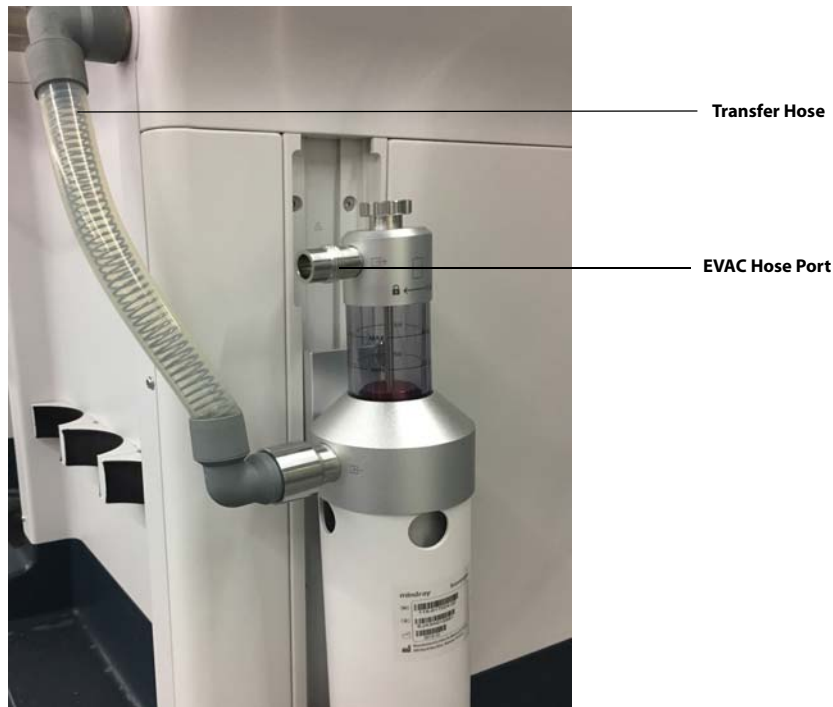

FIGURE 7-26 AGSS and Transfer Hose Removal
1. Disconnect the EVAC hose from the AGSS (see FIGURE 7-26).